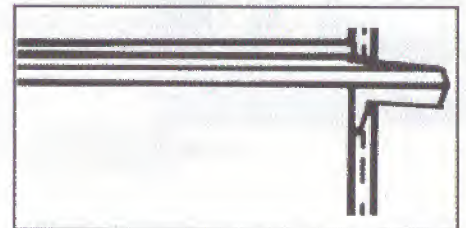

FIGURE 16
**Shelves.** These shelves attach to metal tracks at the back of the interior. See Figure 16. To remove, tap upwards at rear of shelf near the tracks to loosen shelf hooks. Lift shelf and pull out. To install, tilt shelf and engage upper hooks in desired track slots. Lower shelf front and tap downwards near the tracks until shelf hooks are securely seated and shelf is level.